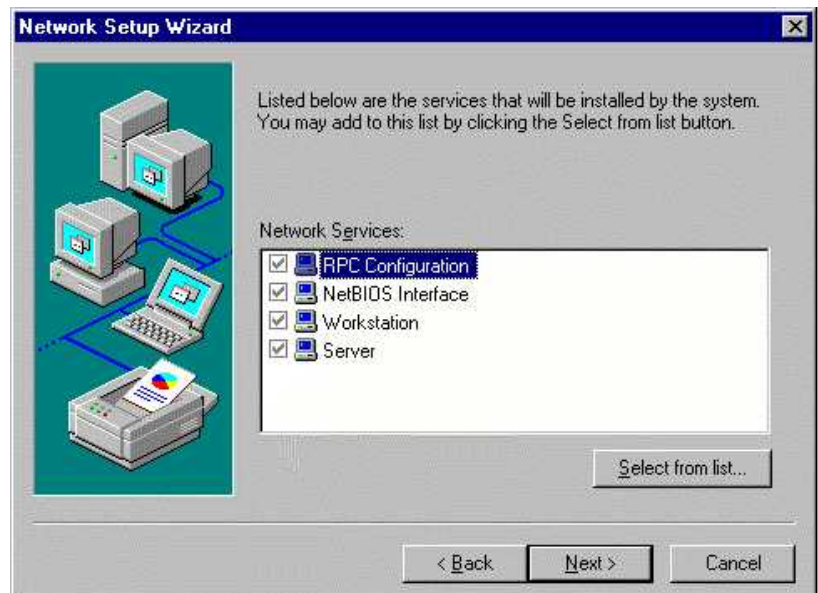

Fig. 8-22
- Accept the selected Network Services and confirm with "Next" (Fig. 8-22).